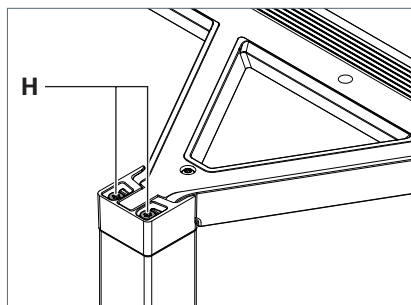

Fig. 10: Adjusting the luminaire head.
- To lower the luminaire head, turn the screws **H** anti-clockwise, see Fig. 10.